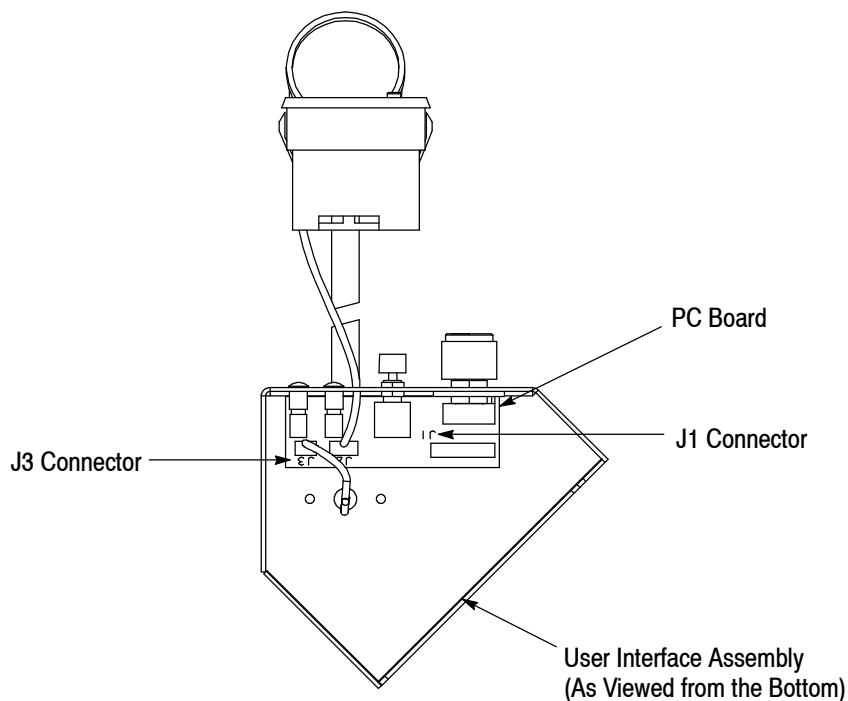

Figure 16
5. Remove the three work light kit knockout holes (Figure 16, Detail A) from the top of the user interface assembly.
7. Plug the lighting kit connector into the J3 connector on the pc board inside the user interface assembly. See Figure 16, Detail B.
8. Attach the light (as shown in Figure 16, Detail A) to the top of the user interface enclosure using the socket screws provided.